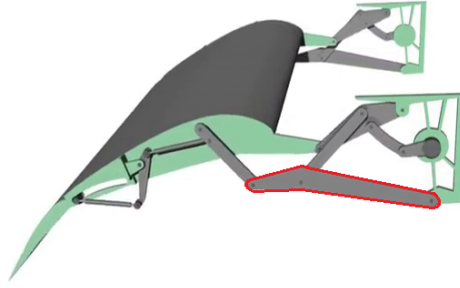
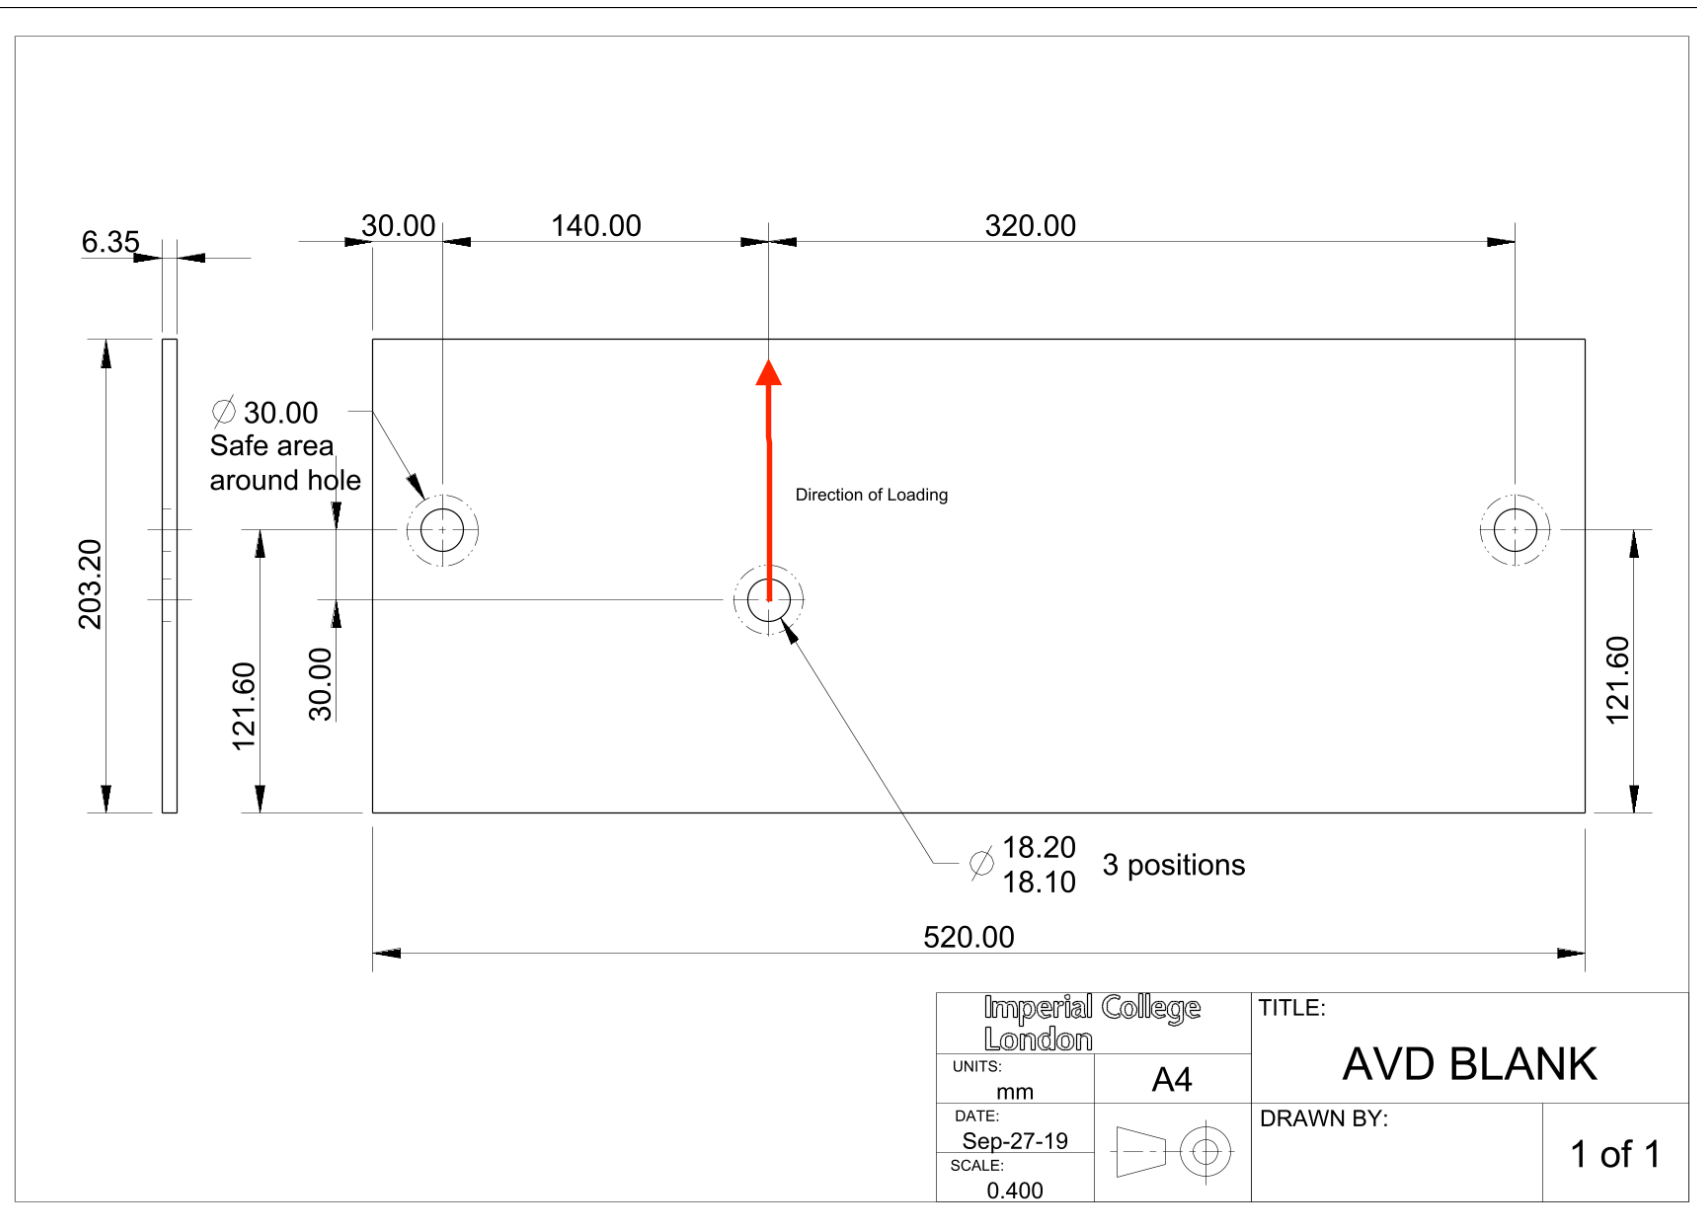

Figure 1: Illustration of a flap extension mechanism with component to be designed highlighted in red
Figure 3: Engineering drawing of the blank to be machined (not to scale)
The component you will be designing and testing is part of your aircraft's flap extension mechanism, functioning in a manner seen in Figure 1. The component will be milled from a 1/4 inch thick plate of 6082-T6 aluminium alloy. Figure 3 illustrates the dimensions of the blank, which can be machined to your own design, via cut-outs, holes, etc. Material may be removed in any way you wish, subject to following manufacturing constraints:
- There is a 30.00 mm diameter safe area around the loading and supporting holes (shown in Figure 3). This area cannot be removed in your design.